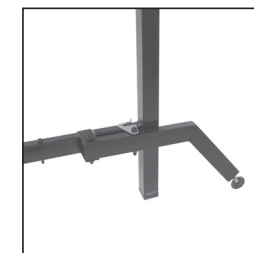

FIG. 1
- Unhook and deploy the 2 rear cantilever braces and re-hook them into their operational position. **(Fig. 1)**